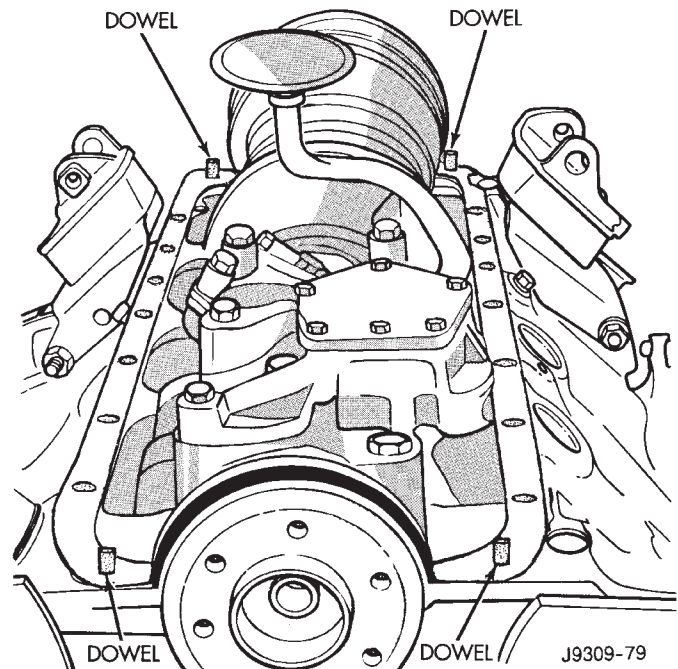

Fig. 38 Position of Dowels in Cylinder Block
- (5) Install the dowels in the cylinder block (Fig. 38).